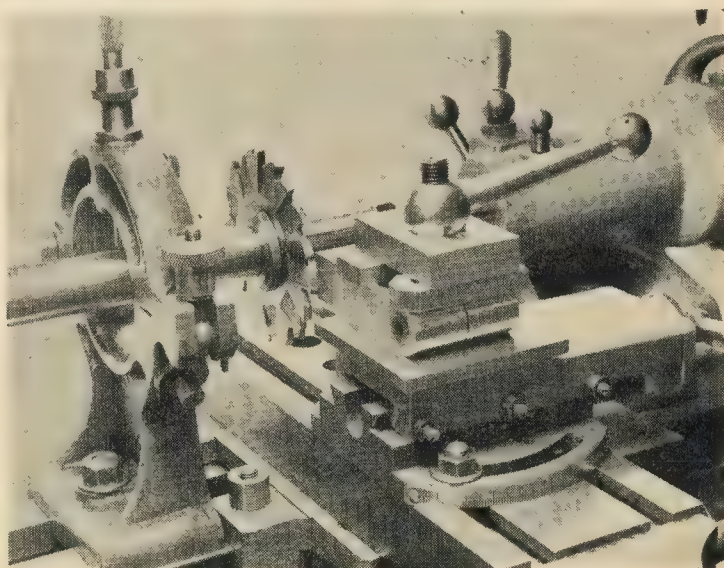

Fig. 17. Milling the baseplate for the side plates
To the plate (K) is attached the bracket (L), forming the headstock assembly, and carrying bearings for both the mainshaft and the backgear layshaft. Readers should note that, when compared with Fig. 16, the drawing in Fig. 18 is reversed from right to left. In addition to the machining already carried out, the sides of the baseplate are recessed for the two side plates, fitted for the purpose of bracing the headstock; the method of machining adopted is illustrated in Fig. 17, and the side plates themselves are shown in previous photographs as well as in the dimensioned drawing which will appear in the next instalment, for the plates are best fitted at a later stage.